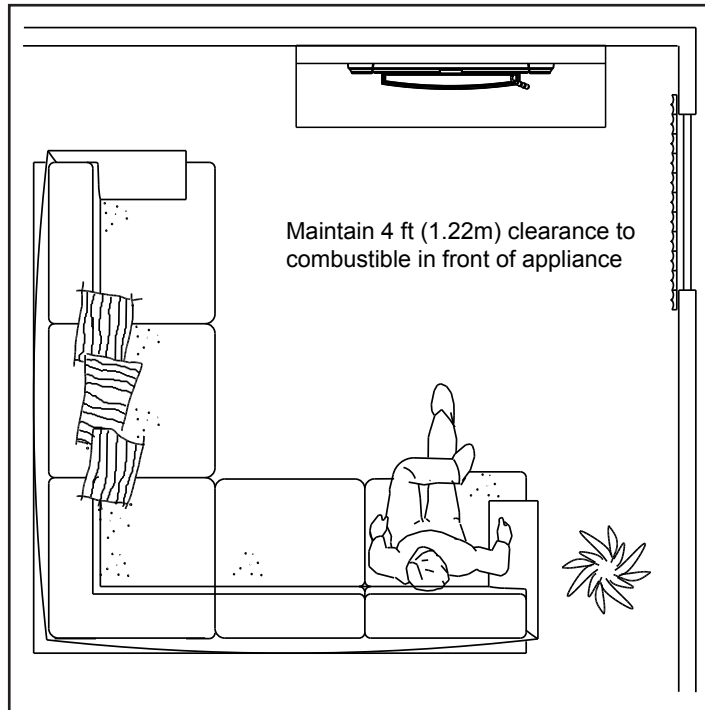

Figure 16.1
- Do NOT place combustible objects within 4 ft (1.2 m) of the front of appliance (**Figure 16.1**).